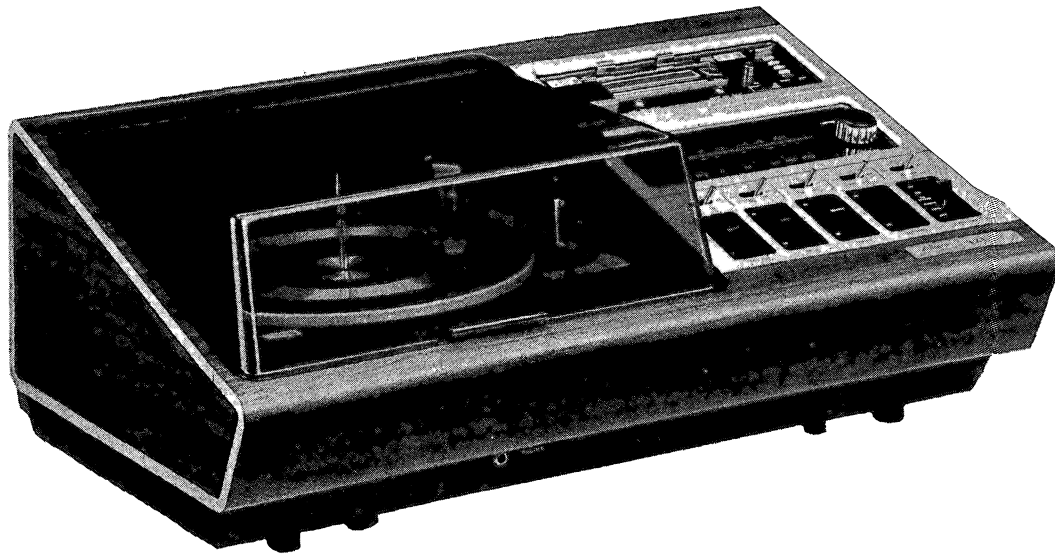

FIGURE 1 – MODEL GR596W
1. Cabinet Styling (See Figure 1).